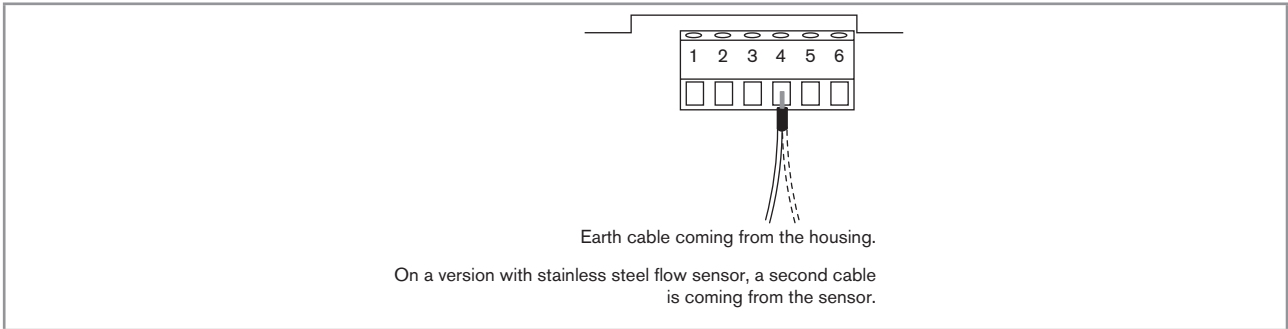

Fig. 19: Terminal block 1 connecting the earth wire coming from the housing (made in the factory)
- Make sure the earth cable coming from the housing and, on a version with stainless steel sensor, the cable coming from the flow sensor, are connected as shown in Fig. 19, chap. 7.3.3.